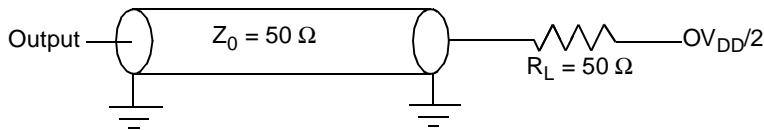

Figure 36. AC Test Load for the JTAG Interface
1. All outputs are measured from the midpoint voltage of the falling/rising edge of t_{TCLK} to the midpoint of the signal in question. The output timings are measured at the pins. All output timings assume a purely resistive 50-Ω load (see Figure 36). Time-of-flight delays must be added for trace lengths, vias, and connectors in the system.
2. The symbols used for timing specifications herein follow the pattern of $t_{(\text{first two letters of functional block})(\text{signal})(\text{state}) (\text{reference})(\text{state})}$ for inputs and $t_{(\text{first two letters of functional block})(\text{reference})(\text{state})(\text{signal})(\text{state})}$ for outputs. For example, t_{JTDVXH} symbolizes JTAG device timing (JT) with respect to the time data input signals (D) reaching the valid state (V) relative to the t_{JTG} clock reference (K) going to the high (H) state or setup time. Also, t_{JTDXKH} symbolizes JTAG timing (JT) with respect to the time data input signals (D) went invalid (X) relative to the t_{JTG} clock reference (K) going to the high (H) state. Note that, in general, the clock reference symbol representation is based on three letters representing the clock of a particular functional. For rise and fall times, the latter convention is used with the appropriate letter: R (rise) or F (fall).
Figure 36 provides the AC test load for TDO and the boundary-scan outputs.